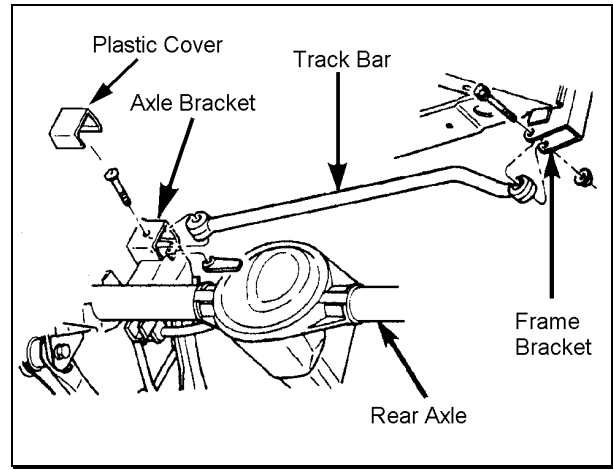

Figure 7
3. Disconnect the track bar from the frame bracket. See figure 7.
5. Separate the track bar from the axle bracket. Remove the track Bar. See Figure 7.